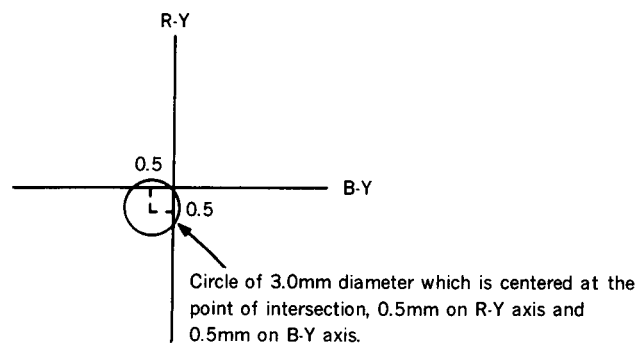

Fig. 9-30.
Specified value	See Fig. 9-30.
- 2) Check that the center of the white bright point is within the circle of 3.5mm diameter given in Fig. 9-30.